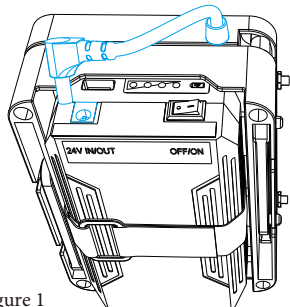

Figure 1
(1) After removing the signal transmitter from the packaging box, insert the power cord plug located on the side of the signal transmitter panel into the battery discharge port at the bottom (as shown in Figure 1). Then, turn on the battery switch (as shown in Figure 2). The signal transmitter will work.